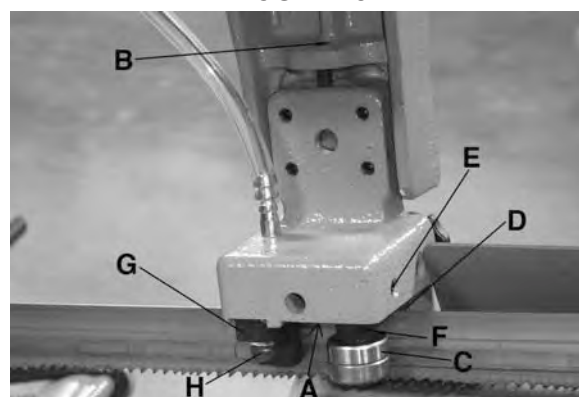
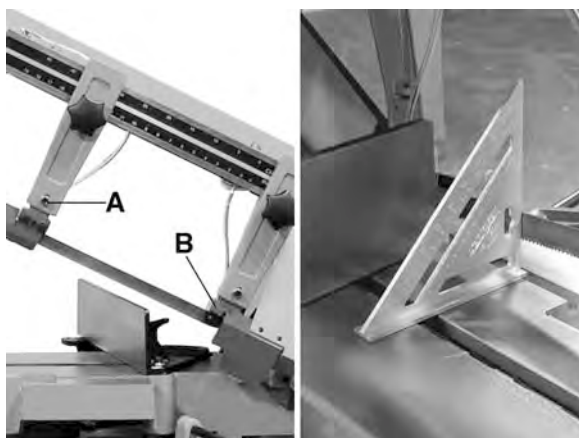

FIGURE 16
FIGURE 17
1. The back of the blade should ride against the back-up bearing (A) Fig.16. To adjust, loosen cap screw (A) Fig.17 and tighten the set screw (B) Fig.16 to move the entire blade guide assembly down until the back-up bearing lightly touches the back of the blade.
2. The saw blade should also ride between and lightly touch the two blade guide roller bearings (C & D) Fig.16. Both bearings are mounted on eccentric shafts. Normally it is longer bearing shaft assembly (C) which is adjusted to suit blade thickness, this is done by loosening set screw (E) and turning shaft (F).
3. The carbide blade guides (G) Fig.16, should also be adjusted so they lightly touch the blade, this is done by loosening cap screws (H).
4. The blade guide roller bearings, carbide blade guides and back-up bearing on holder (B) Fig.17 should be adjusted in the same manner.
1. Examine the workpiece and try to determine which way the blade is twisting or place a 90 degree square on the table and against the blade as shown in Fig.17.